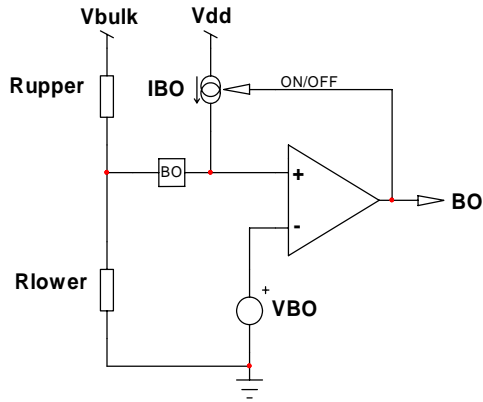

Figure 43. The internal brown-out configuration with an offset current source
circuitry, depicted by figure 43, offers a way to observe the high-voltage (HV) rail. A resistive divider made of Rupper and Rlower, brings a portion of the HV rail on pin 5. Below the turn-on level, the 27 $\mu$ A current source IBO is off. Therefore, the turn-on level solely depends on the division ratio brought by the resistive divider.